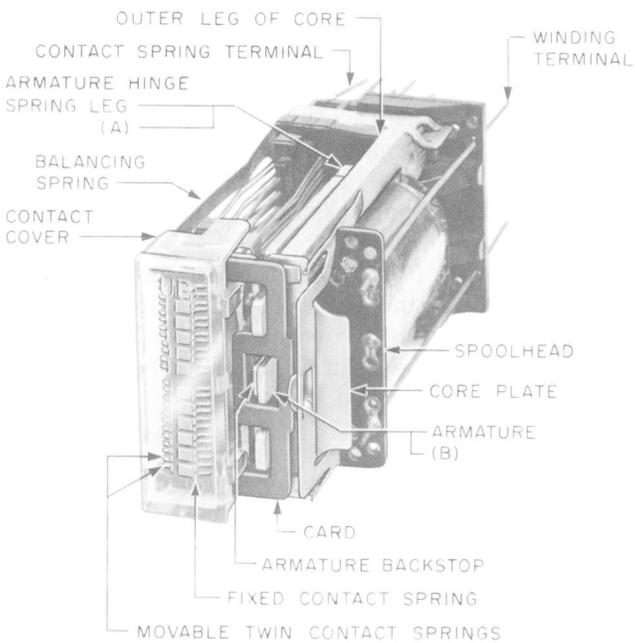

Fig. 3—AL Type Relay Showing Armature Position
2.05 Armature Position (AL-type relay): Fig. 3(A)—The armature hinge spring legs, where they are secured to the armature legs, shall bear against the outer legs of the core with the relay in the operated and unoperated positions. Operate the relay electrically and gauge by eye.